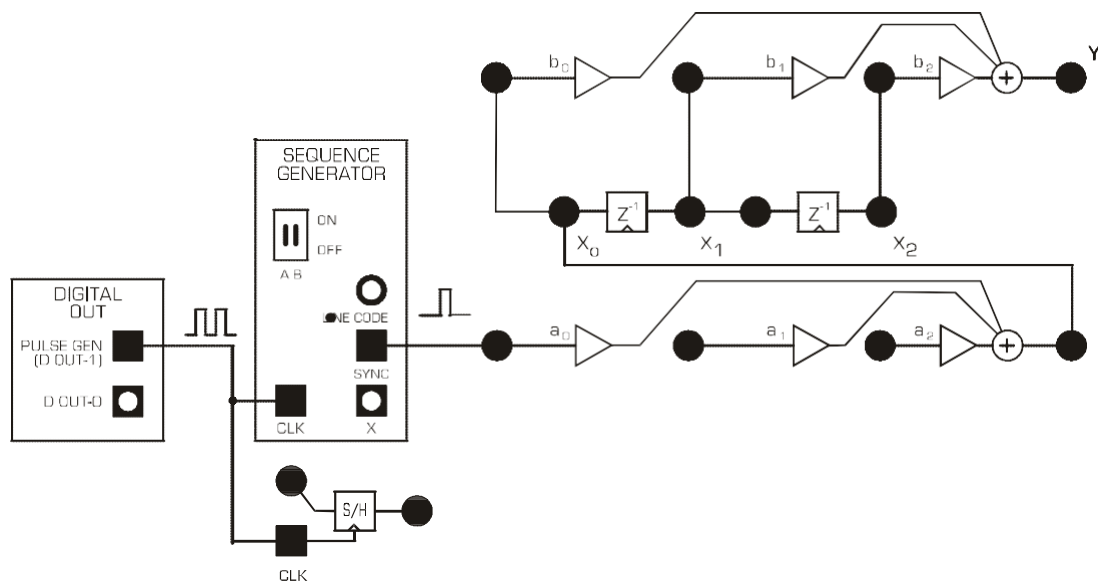

Figure 2: patching diagram of the system in Figure 1
11. Patch up the model as shown in Figure 2.